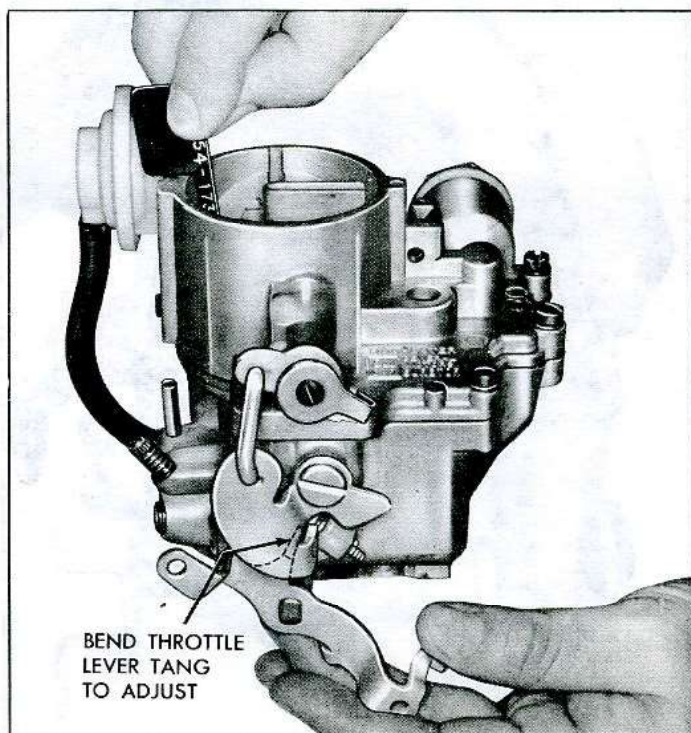

Fig. 15—Choke Unloader Adjustment
- Check unloader adjustment by holding throttle valve in wide open position and insert a  $.312$ " wire gauge between choke valve lower edge and wall of bowl cover (fig. 15).